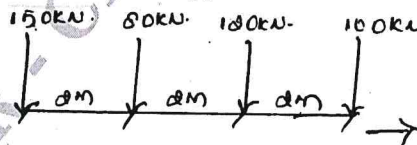

Fig.Q10(b)
- b. The multiple point loads 100 kN, 120 kN, 80 kN and 150 kN with a spacing of 2m crosses a girder of span 30m from left to right with 100 kN load leading. [Refer Fig.Q10(b)]. Calculate